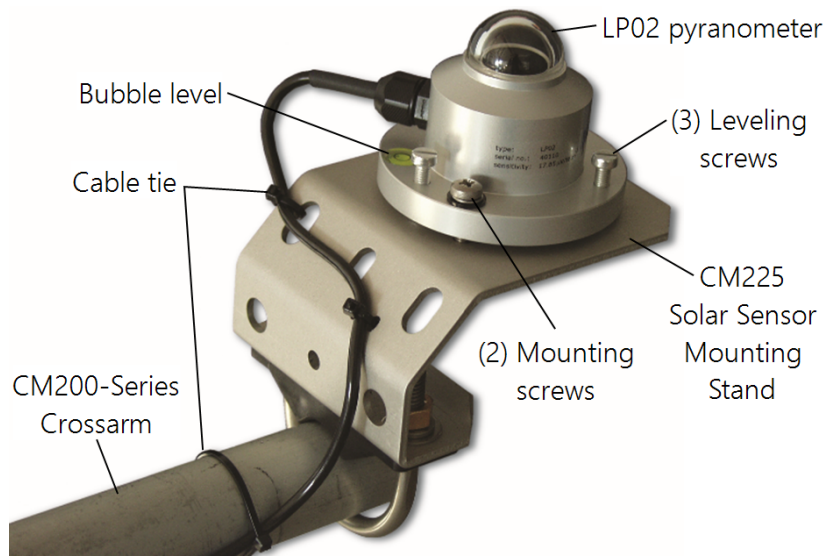

FIGURE 7-4. LP02 Pyranometer attached to CM225 Solar Sensor Mounting Stand
- Place the mounting screws in the mounting holes and slightly tighten them. The leveling screws should lightly touch the mounting plate (see FIGURE 7-4 (p. 9)).
- Starting with the leveling screw nearest the bubble level, turn the leveling screws to bring the bubble of the bubble level within the ring (see FIGURE 7-4 (p. 9)).
- Use cable ties to secure the cable to CM225 bracket and to the vertical pipe or crossarm and tripod/tower (see FIGURE 7-4 (p. 9)).